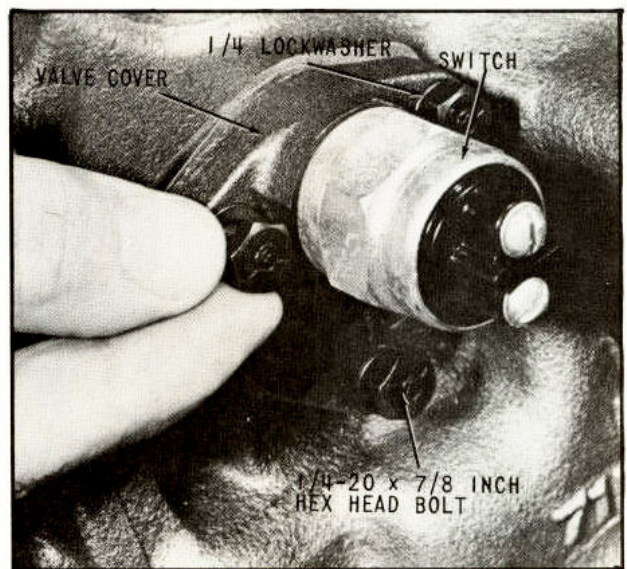

Fig. 81 Neutral Switch Correctly Assembled
3. Assemble valve cover and neutral switch with neutral switch located between two (2) top $1/4$ -20 bolts, as shown in (Fig. 81). Use the three (3) $1/4$ -20- $7/8$ inch long hex head bolts provided in neutral switch kit. Tighten hex head bolts to recommended torque of 8 to 11 pounds-feet and assemble starter solenoid wires to switch.